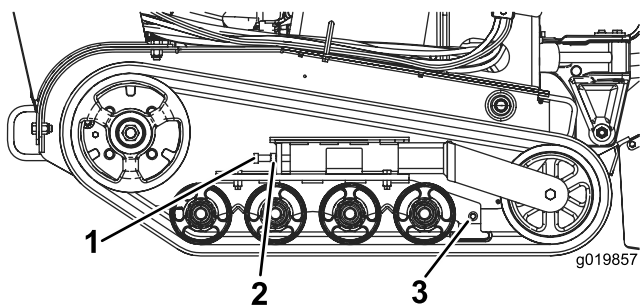

Figure 46
3. Loosen the jam nut on the track tensioning bolt (Figure 46).
4. Torque the tensioning bolt to 24 to 30 ft-lb (32.5 to 40 N-m) to tighten the track (Figure 46).
4. Back out the tensioning bolt and jam nut (Figure 46).